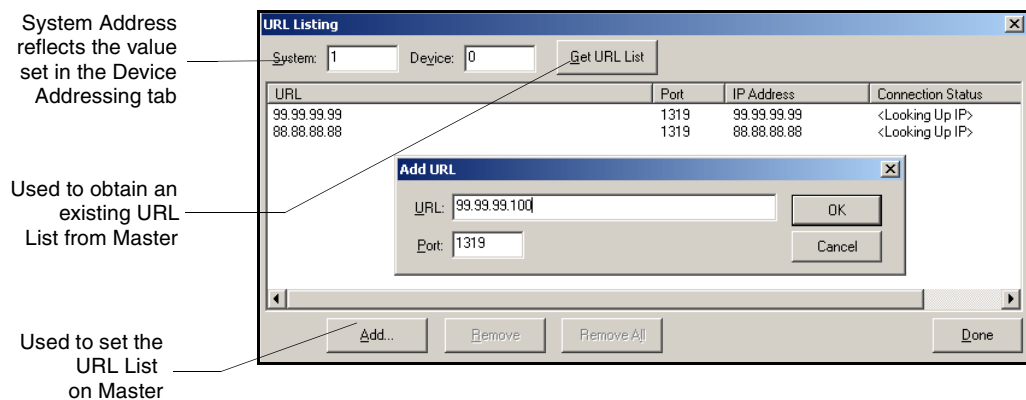

FIG. 87 URL List dialog
6. Select **Diagnostics > URL Listing** from the Main menu (FIG. 87).